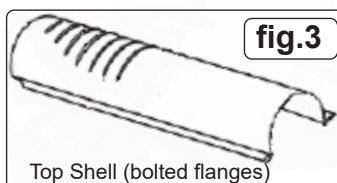

fig.3
6.8 FAN Fan blades (fig.13) should be cleaned at least once per heating season, depending on environment. Remove the outer case top shell (fig.3) and clean the fan blades with a damp cloth. Dry fan thoroughly using compressed air.